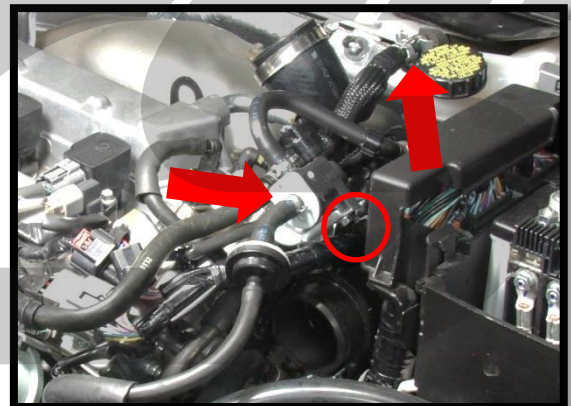

Figure 1h
k) **Remove the evap. solenoid and brake booster hoses** (red arrows in Figure 1h). Disconnect the spring clamps and pull off the hose. Push the two hoses out of the way toward the radiator.
l) **Unbolt the evap. solenoid from the bracket** with a 10mm wrench (red circle in Figure 1h). Push it out of the way toward the firewall.